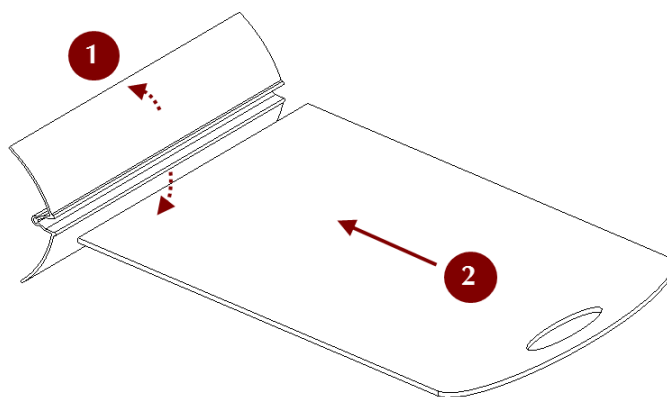

Figure 11.18: Assembling the rig.
3. Insert the board into the slot, as Figure 11.18 shows.